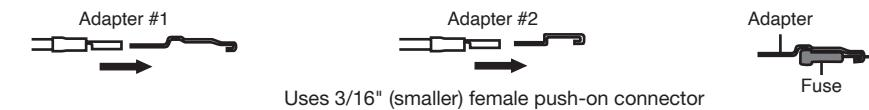

fig. 10
- ii. **Ground:** Crimp the yellow 3/8" (CC) or 1/4" (W) ring terminal to the black ground wire on the main harness. Attach the ring terminal to the ground battery post.
- i. **Ignition Wire:** Crimp the blue butt connector (X) to the pink ignition wire on the main harness. Crimp the other end to one of the ends of the black mini fuse holder (S). Apply heat to the butt connector to seal it.
- ii. Determine the correct fuse adapter type (Fig. 10) for your selected fuse and install the fuse into the adapter (BB or AA), then install the fuse back into the fuse box. Connect the end of the fuse holder with the female push-on connector (Y or Z) onto the adapter. If you have the standard ATC type fuses, use adapter #1 (BB). Many late-model vehicles use a smaller mini-type fuse requiring adapter #2 (AA). If you use adapter #1, you will need to crimp on a 1/4" (14-16GA) female connector (Z) supplied in kit. If you use adapter #2, you will need to crimp on a 3/16" (14-16GA) female connector (Y) supplied in the kit. Connection to the fuse terminal will depend on what type of fuse your vehicle uses.
1. Attach a supplied female push-on connector to the other end of the fuse holder using the correct size for the needed adapter (Fig. 10).